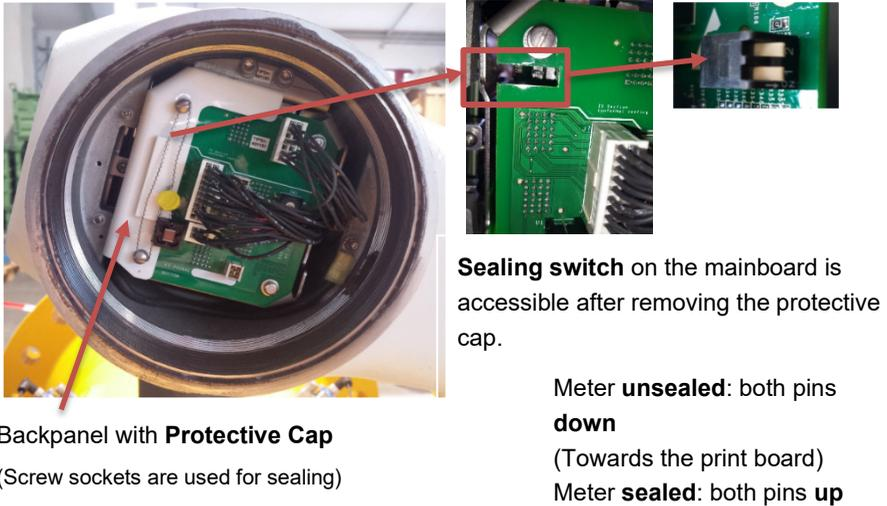

Fig. 4-12: Hardware protection on the main board
- Therefore, a hardware switch is placed on the main board. This hardware switch can be reached through an opening in the back panel. The hole in the back panel is protected with a plastic cap (⇒ Fig. 4-12).